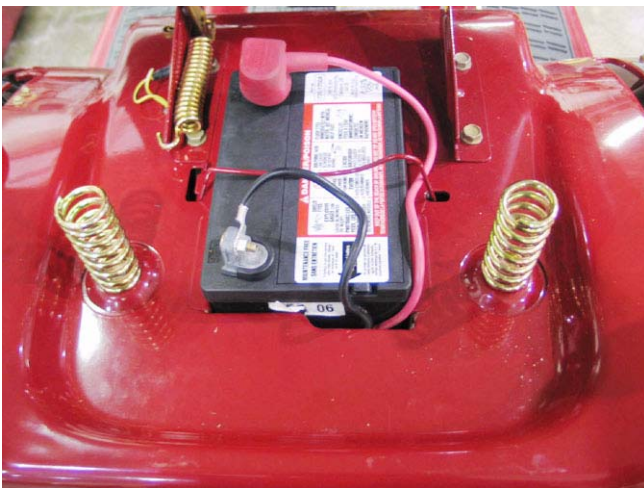

Figure 6.2
1. Access to the fill plug can be gained by removing the battery and the tray that supports the battery. See Figure 6.2.